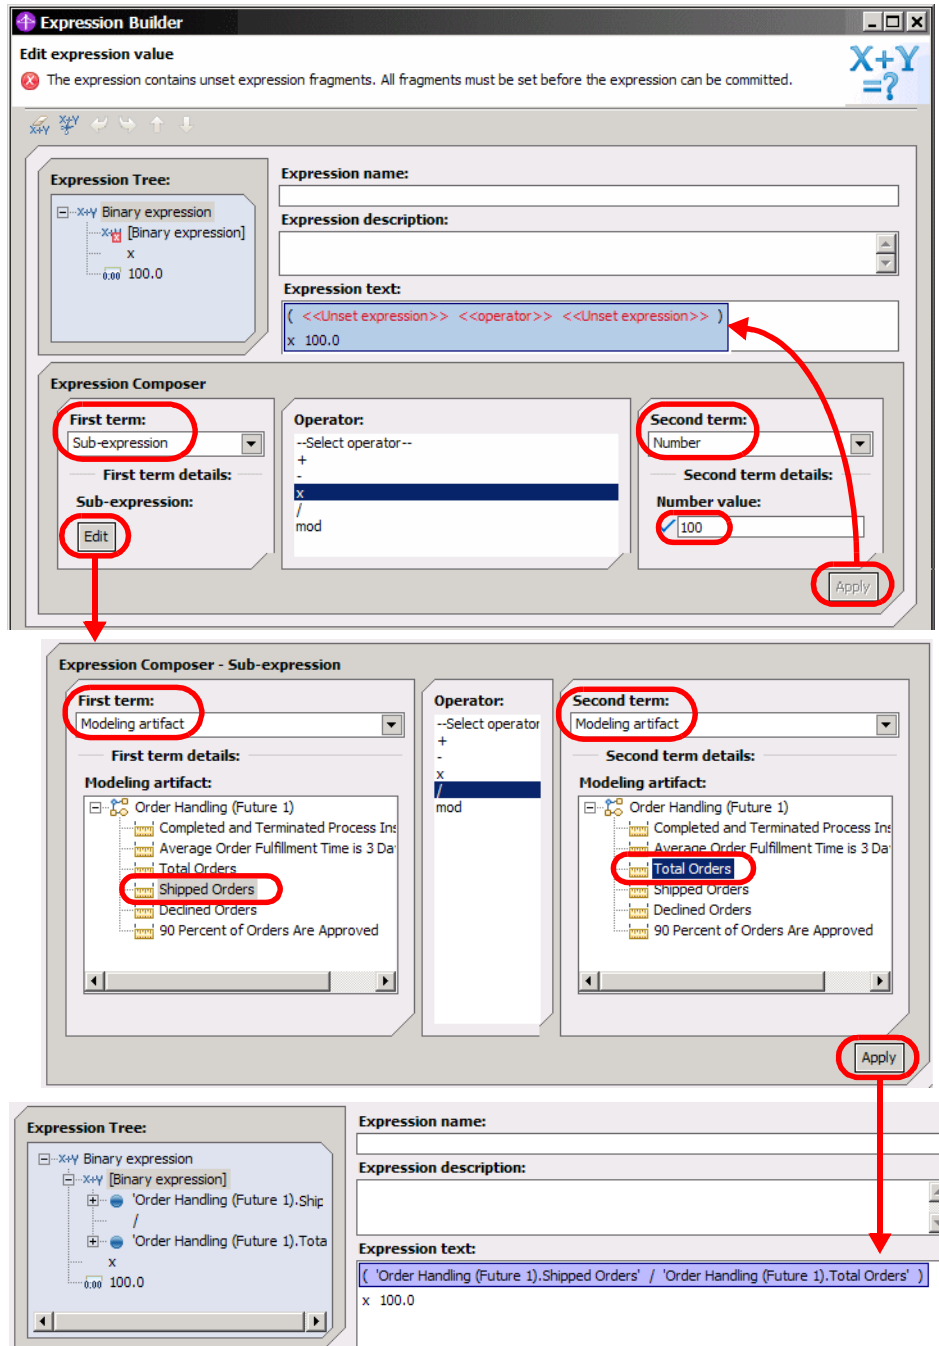

Figure 8-22 Expression builder
- ▶ The expression builder opens (Figure 8-22):